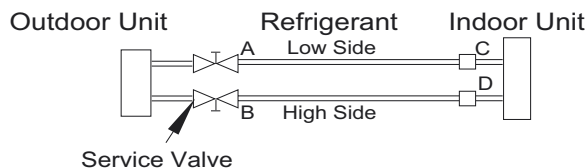

Fig. 47 — Service Valve
1. Completely tighten flare nuts A, B, C, D, connect the manifold gage charge hose to a charge port of the low side service valve (see Fig. 47).